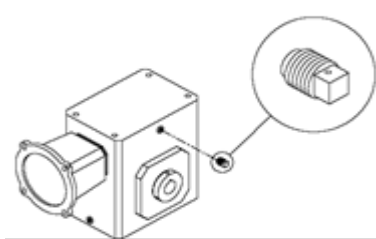

FIGURE 2.1
- Check for REDUCER VENT PLUG and INSTALL if necessary (see *Figure 2.1*). To install, remove the solid plug and replace with vent plug.